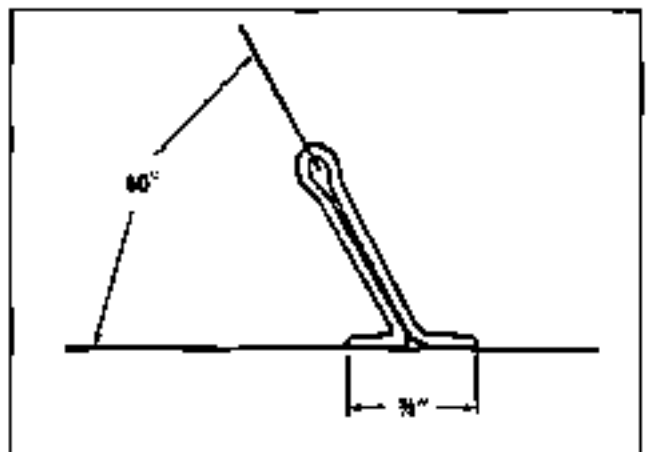

Fig. 6-109 Tool For Removing Upper Half of Main Bearing
4. Make a tool for removing upper half of bearing shell as shown in Fig. 6-109.